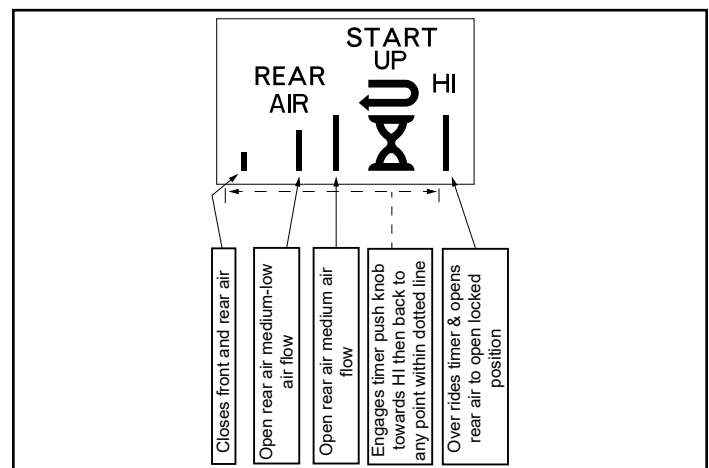

Figure 10.2
- Automatic Combustion Control System (ACC)** - To engage the Automatic Combustion Control (ACC) timer system push the lever towards the back of the appliance to the "HI" position, then pull forwards towards the front of the appliance until the knob stops. The timer will slowly close in about 25 minutes. Use this feature when reloading fuel or if you want more air supplied to the fire (**Figure 10.2**).